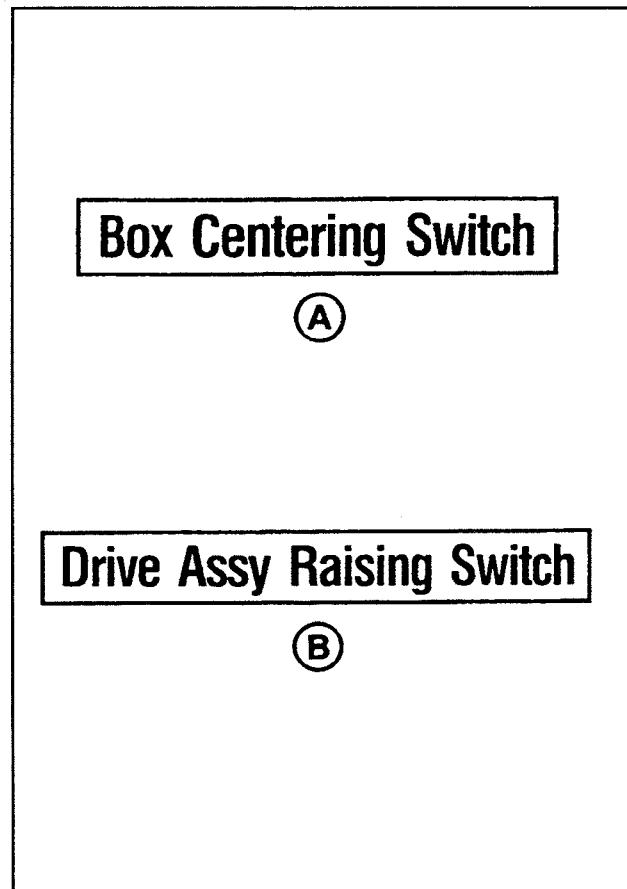

Figure 1-11 - Box Centering Switch/Drive Assembly Raising Switch
The "**Box Centering Switch**" label (A), shown in **Figure 1-11**, is attached to the switch located in the center of the bed frame at the infeed end. The label identifies the box centering switch.
The "**Drive Assembly Raising Switch**" label (B), shown in **Figure 1-11**, is located above the switch which is at the front of the upper frame. The label identifies the drive assembly raising switch.